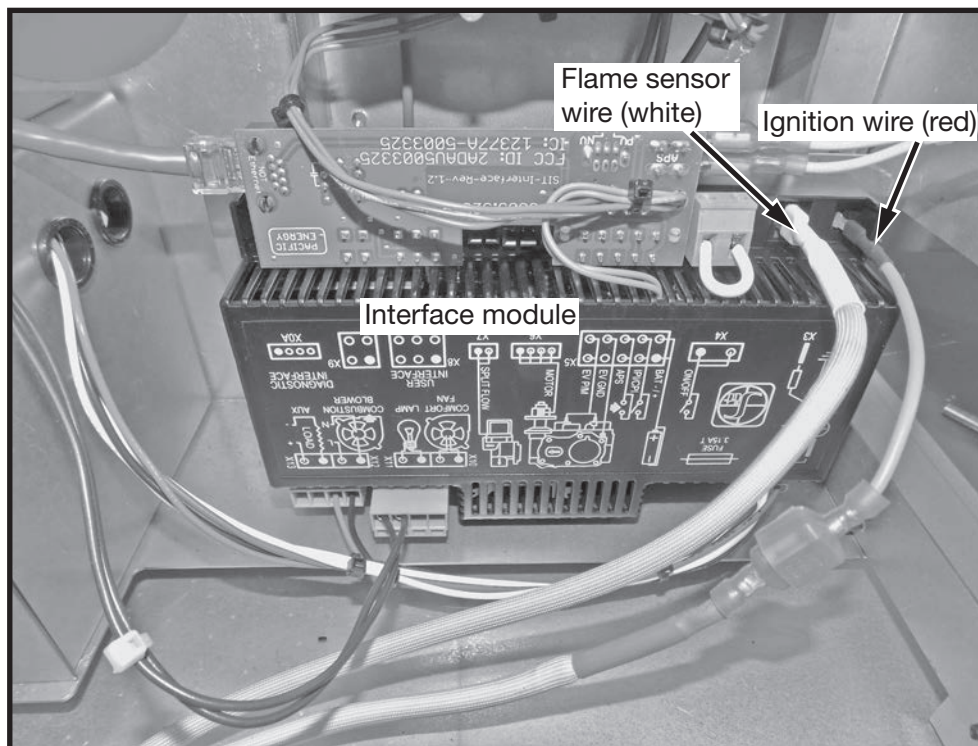

Figure 7: Interface module.
6. Attach the ignition and sensor wires to the interface module as shown in Figure 7.